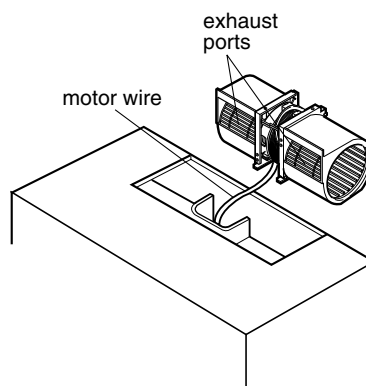

Figure 16
3. Rotate the vent motor 180° so the exhaust ports face the front of the cabinet. See Figure 16.